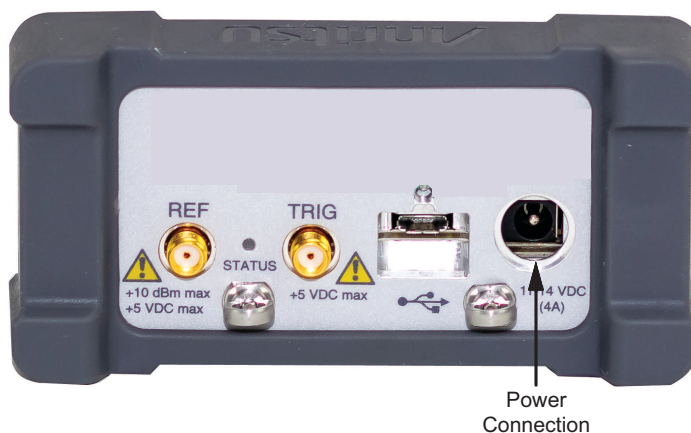

Figure 3-1. Power Connection to AC Mains Power
1. Connect a power cord to the power supply. Connect the DC connector from the power supply to the power input connection on the bottom panel of the MS46131A. See Figure 3-1.